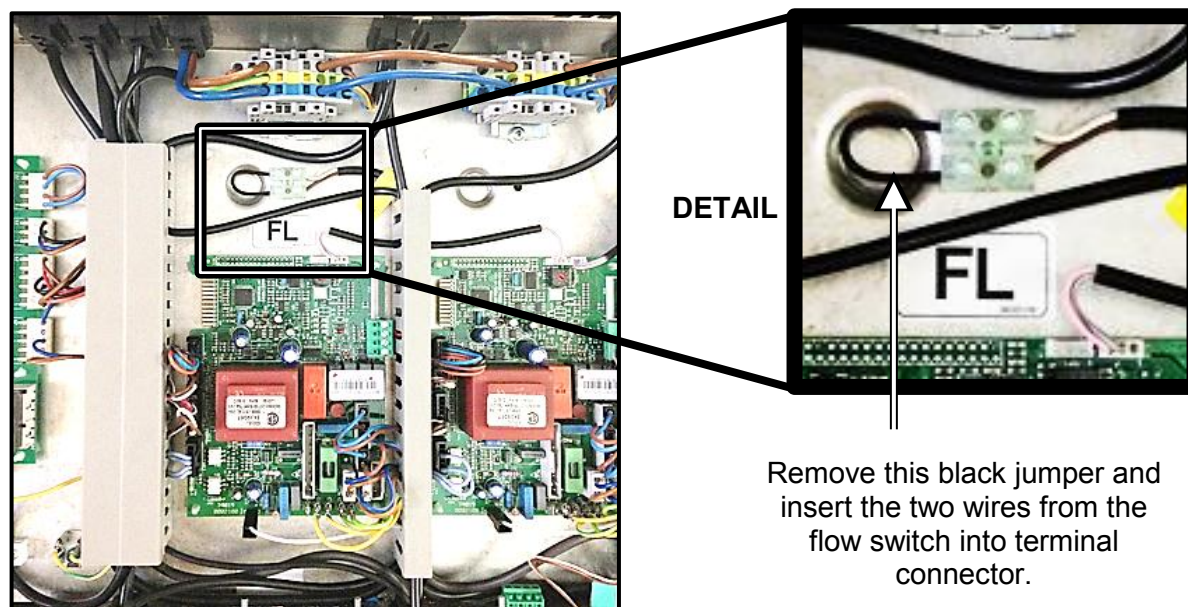

Figure 7: BMM Location and Flow Switch Connection
5. Locate the BMM module with the "FL" label (Figure 7), and remove the black jumper wire from the terminals of the connector shown in the detail of Figure 7. Connect the two flow switch wires to the two terminals. Flow switch wires have no polarity, so can be inserted without regard to position.